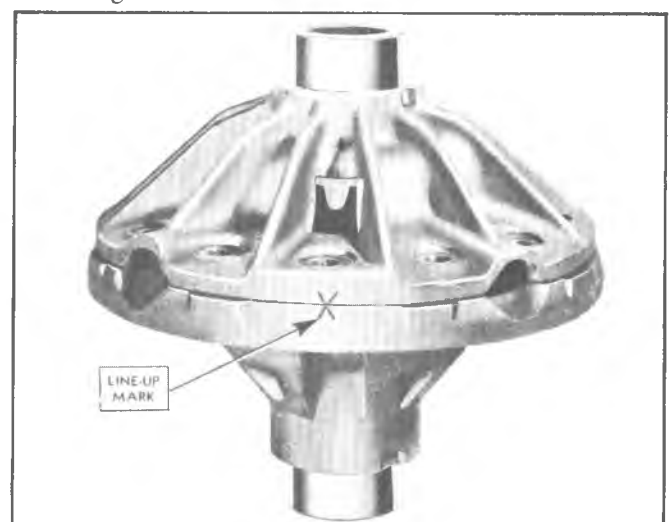

Fig. 6G—Differential Case Line-Up Marks
1. Check differential case to make sure that the two halves are marked so they may be reassembled in same relation. See Figure 6G.